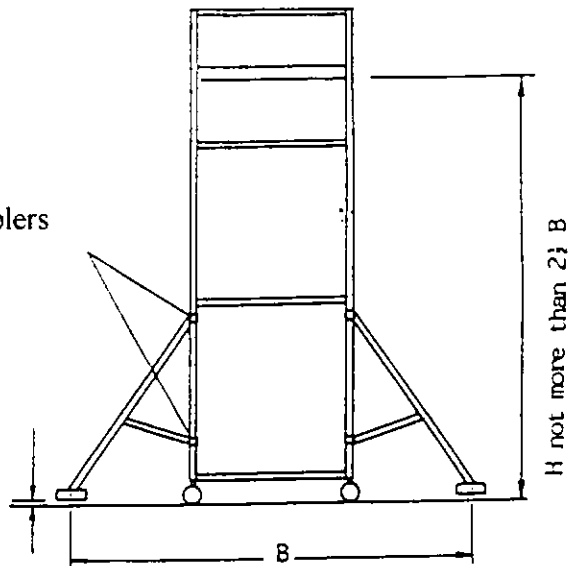

Fig.23
- c. Connect the tube-coupling of the Stabiliser 'swing-arm' (Fig. 23) to a position between the first and second rung of the End Frame.